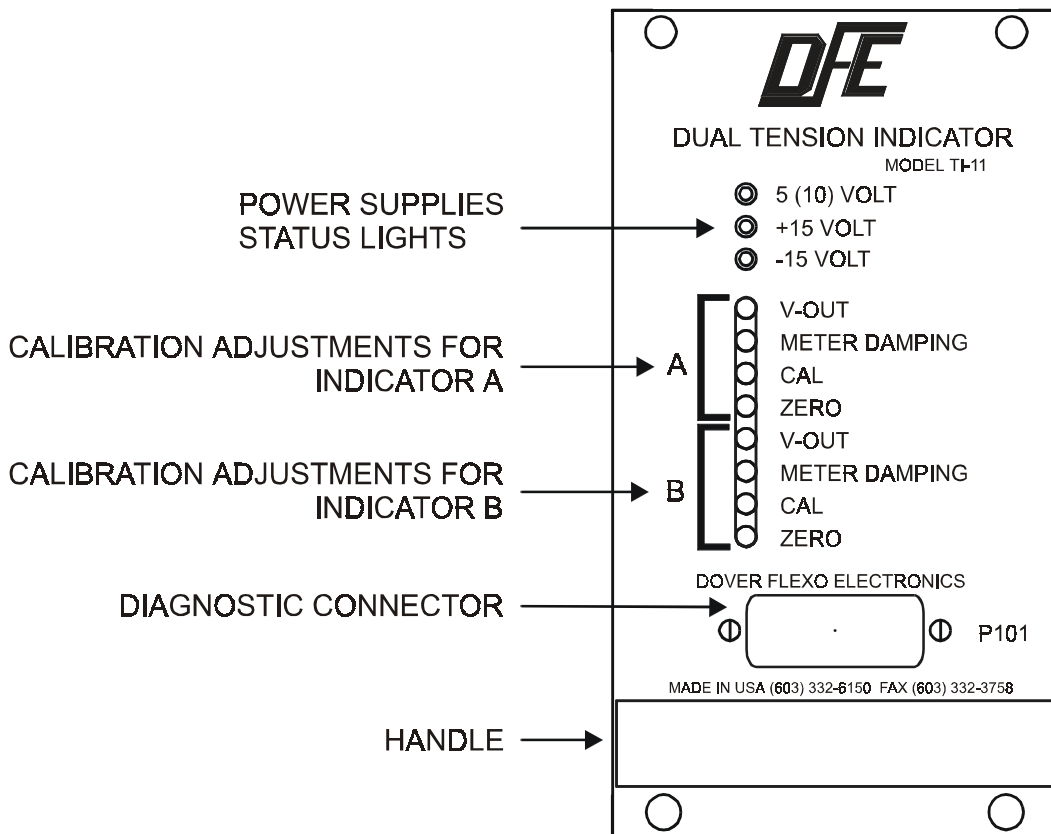

Figure 2 - FRONT PANEL
3.2 CALIBRATE THE METER FOR ACCURACY (Refer to Fig. 2 or 10 for adjustment pots.)